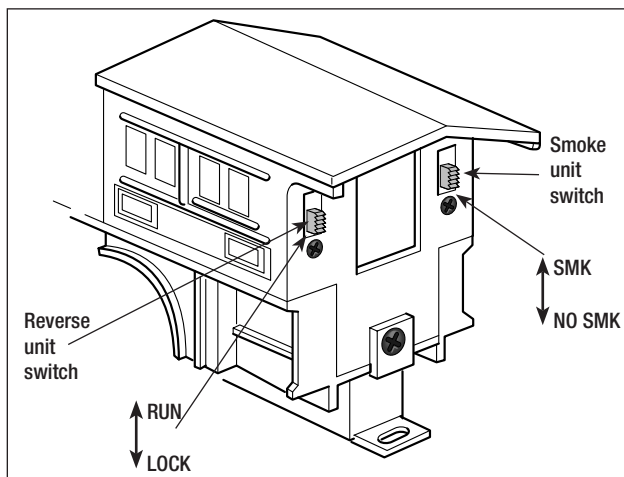

Figure 8. Switch location
**Y**our locomotive is equipped with a smoke generator that produces safe, clean white smoke during operation if the smoke unit switch is in the ON position. Refer to Figure 8 on page 13 for the location of the switch.
Also, the locomotive can be “locked” into a certain mode of operation by throwing the reverse unit switch located on the rear of the cab (see Figure 8). When the switch is thrown to the LOCK position, the locomotive will be locked in the next mode of operation in the sequence. To lock your locomotive into a specific operational state, sequence the locomotive into the desired state